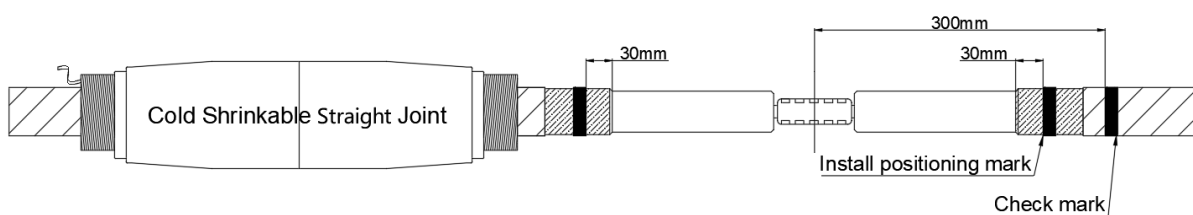

Fig.8
- Measure 300mm from 1/2 of the length of the B after crimping, and make a mark (Fig 8).